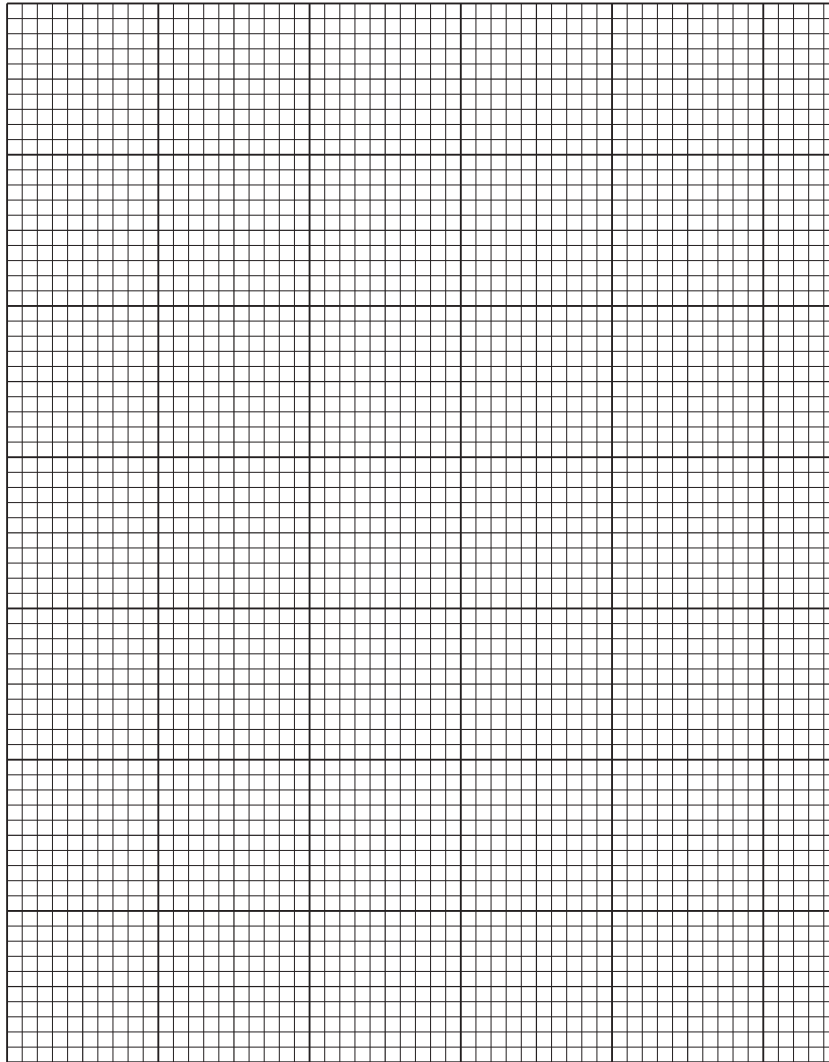

Fig. 1.3
- (ii) Draw a bar chart of the data shown in Table 1.3 on the grid in Fig. 1.3. Each bar should be separated for each type of sugar.